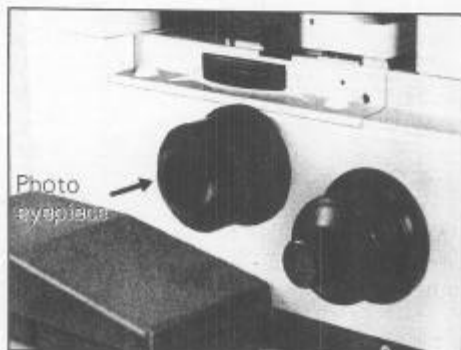

Fig. 39
- ★ Insert the photo eyepiece into the port on the left side of the base. (Fig. 39)